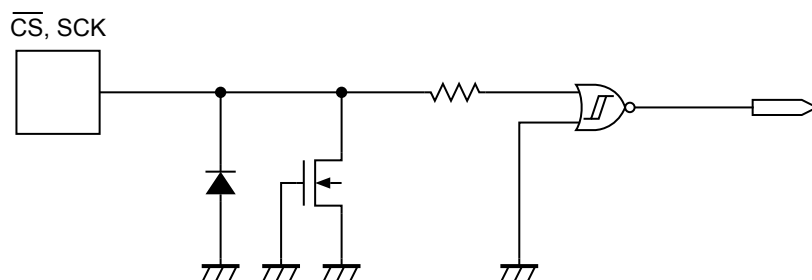
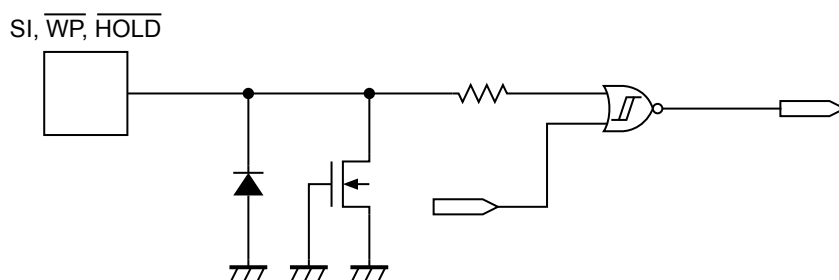

Figure 22  $\overline{\text{CS}}$ , SCK Pin
Figure 23 SI,  $\overline{\text{WP}}$ ,  $\overline{\text{HOLD}}$  Pin
**Figure 22** and **Figure 23** show the equivalent circuits of input pins in this IC. A pull-up and pull-down elements are not included in each input pin, pay attention not to set it in the floating state when you design.